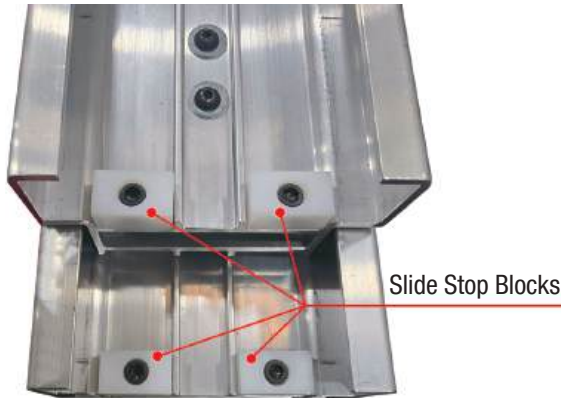

Figure 4-12: Slide Stop Blocks
10. Release the mast locking arm. Working from the bottom of the mast assembly and starting with the fork carriage, move each mast section up to reveal the next mast section's bottom slide stop blocks (see Figure 4-12). Using 3/8" hex wrench and 9/16" wrench, remove the two white plastic slide stop blocks from the mast beneath and remove the above mast section by sliding it away from the section beneath. Slide the sections from the bottom of the mast assembly. Repeat this until you find the section with the broken cable end.